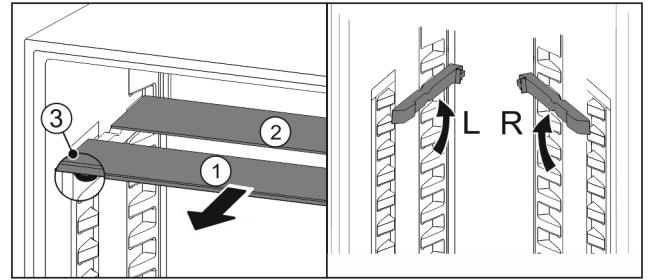

Fig. 35
- ▶ Pull the glass panels out Fig. 35 (1) from the front, one at a time.
- ▷ The glass panel Fig. 35 (1) and trim strip are at the front.
- ▷ The stops Fig. 35 (3) point down.